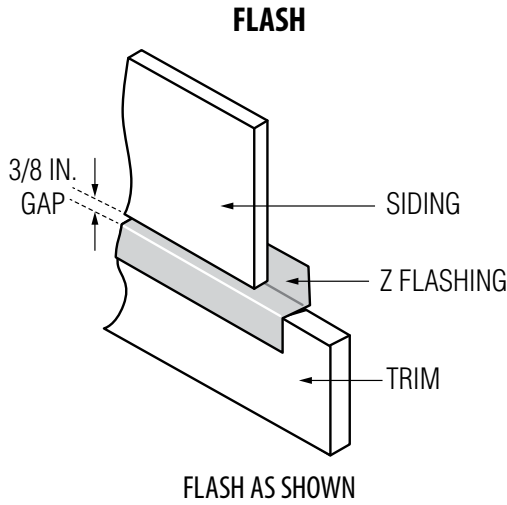

Figure 4
- Install flashing in a manner that creates proper out-sloping (see Fig. 4 and 5).